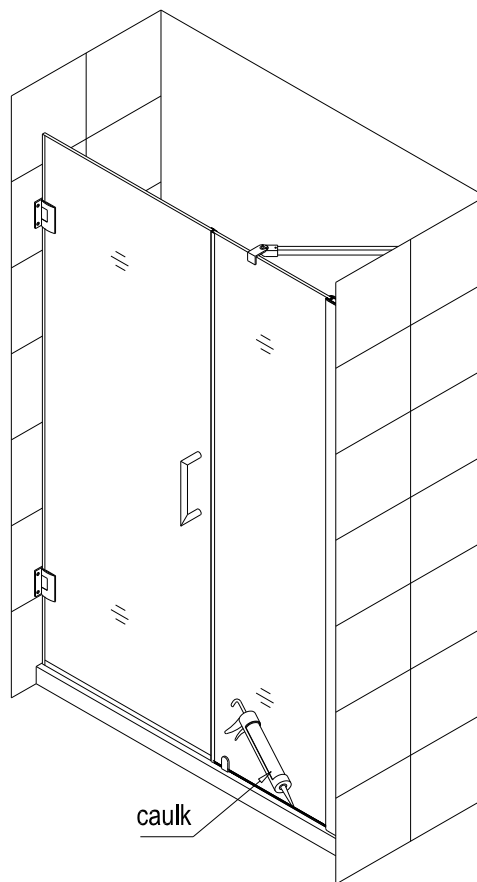

fig. 15
13. Seal with caulk between the stationary glass and the tray or the threshold. See fig. 15 for details.